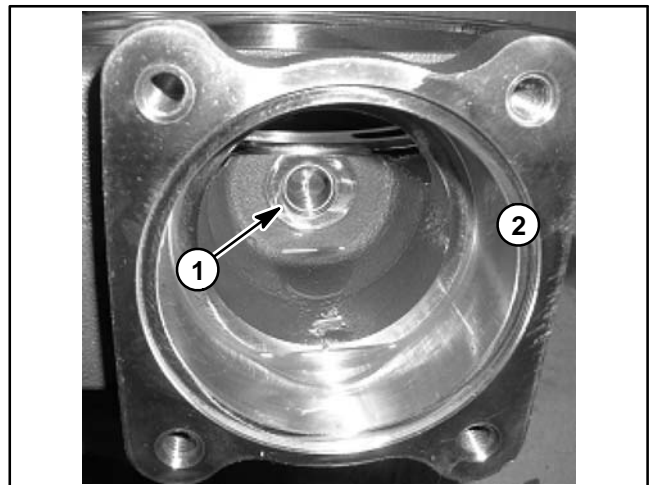

Figure 11
4. Inspect the inner pinion bushing in the gear case (Fig. 11). If the bushing is excessively worn, the gear case must be replaced. The bushing is not serviced separately.